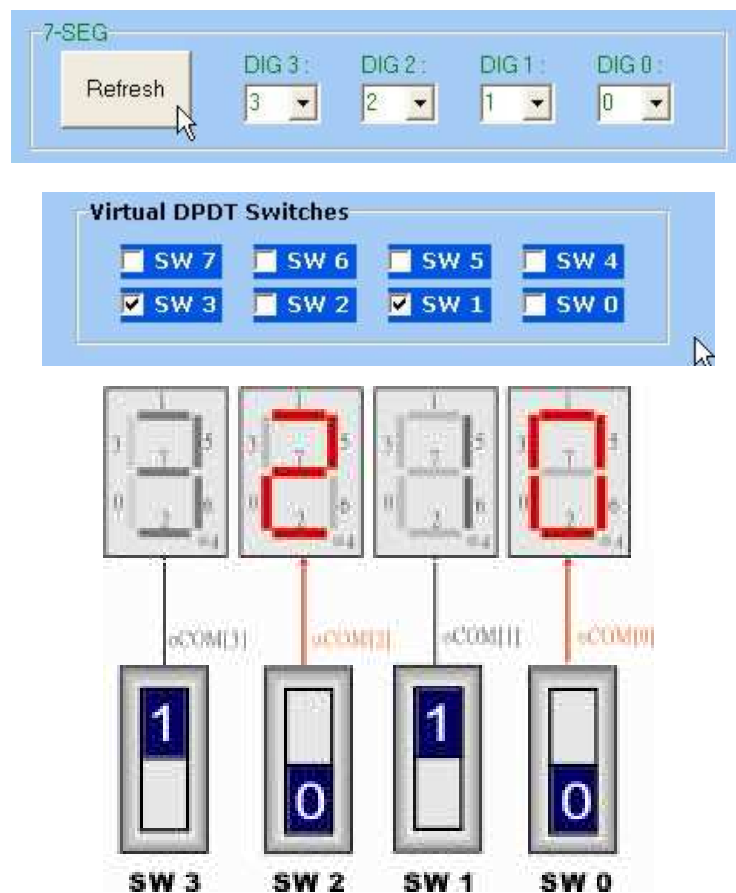

Figure 6.14 TREX Control Panel – Virtual DPDT Switches
1. Please refer to Figure 6.14. Select the number 3210 in the 7-SEG Digit Boxes and click on the REFRESH button to display the number 3210 on the 7-SEG display module.
3. Click on the SW3 and SW1 boxes. Then Click on the Configure button. You will notice that the Digit 3 and Digit 1 are turned off, as shown in Figure 6.14. Readers who are interested in using the Virtual DPDT Switches should look at the following Verilog Code examples.